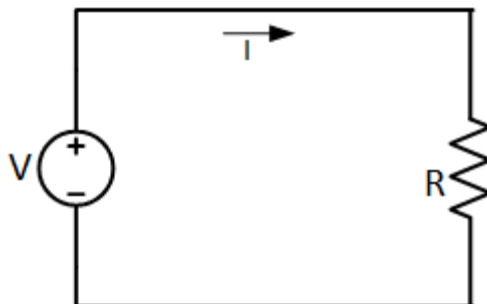

Figure 1.1: Circuit diagram of the experiment
1. Make the circuit shown in Figure 1.1 in a breadboard or kit provided